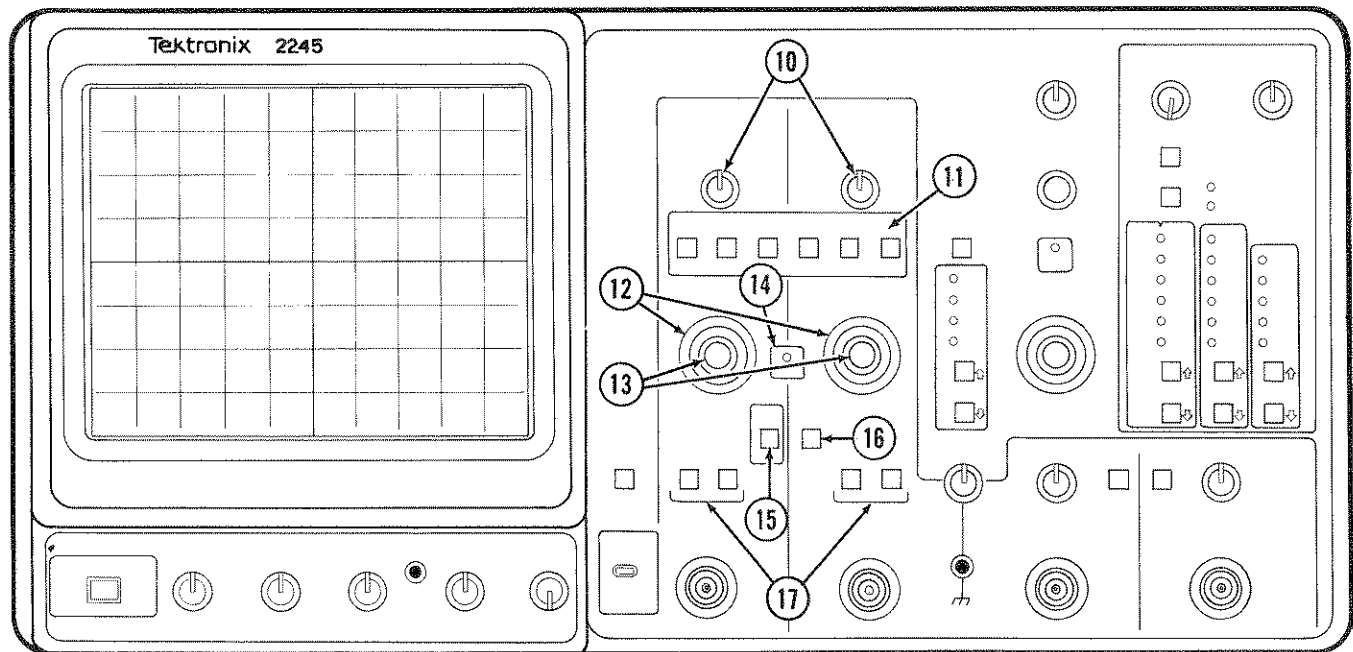

Figure 3-2. CH 1 and CH 2 vertical controls and indicators.
See Figure 3-2 for items 10 through 17.